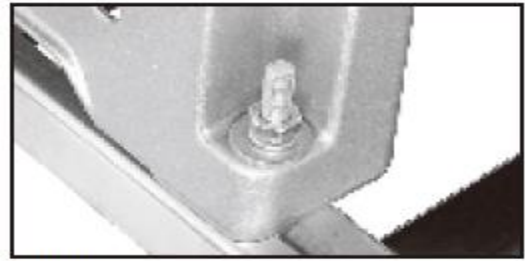

Figure 6
9. Attach the two machine mounts to the saw using mounting bolts (K) at each saw mounting point. See figure 6. From the bottom, pass the mounting bolt through the slot in the machine mount, through the mounting hole and secure with flat washer (K), lock washer (L) and nut (J). Hand tighten only.